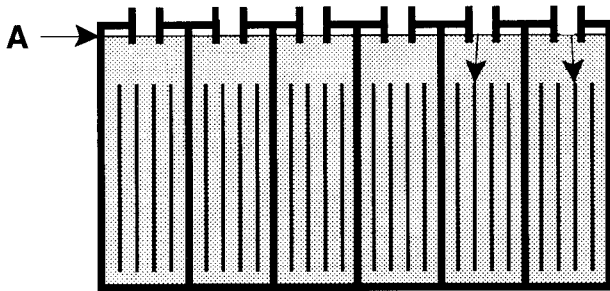

FIG. 25
2. Each week AFTER charging, check water level in each battery cell of all batteries. Water level should reach bottom of sight tubes (A). If needed, add just enough distilled water to reach bottom of sight tubes. DO NOT overfill. (Figure 25)